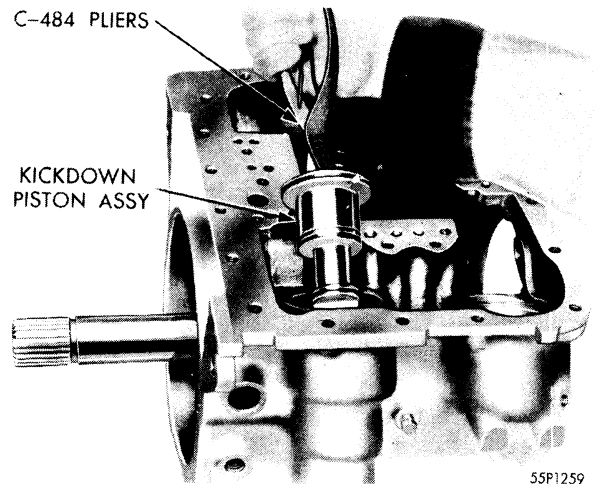

Fig. 99—Removal of Kickdown Piston Assembly
- (1) Using Tool C-3289, apply sufficient pressure on the kickdown piston rod guide and remove the snap ring.
- (2) Loosen compressing portion of tool and remove tool from transmission case. Remove piston rod guide, piston spring, kickdown piston rod assembly, and kickdown piston cushion spring. Inspect riveting of the kickdown piston rod to kickdown piston spring retainer.
- (3) Remove seal ring from guide. Inspect for light scores and wear on piston rod and guide.
- (4) Using pliers, Tool C-484, remove the transmission kickdown piston from the transmission case, as shown in Figure 99.
- (5) Remove the three seal rings (two locking and one open type) from the kickdown piston. Inspect piston for light scores and wear. Inspect rings for broken ends.